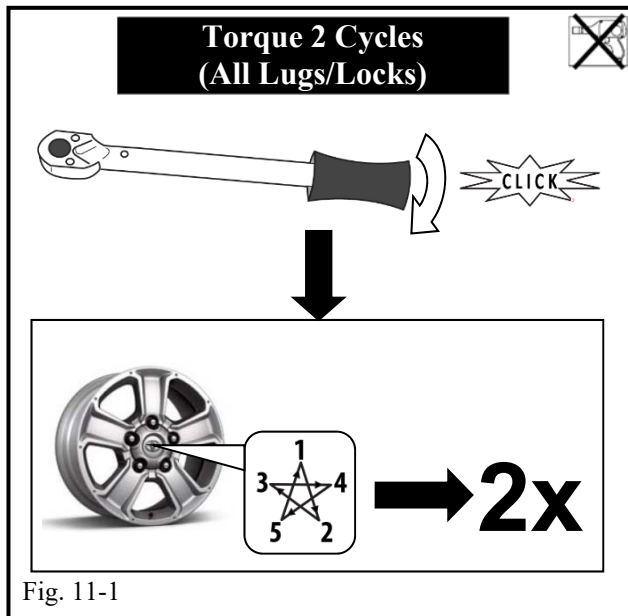

Fig. 11-1
- (d) Torque the lug nuts to 97 ft-lbf (131 Nm) with a 22mm socket and torque wrench in the order shown (Fig. 11-1).
- (e) Re-torque all lug nuts in same 1-5 sequence (Fig. 11-1).